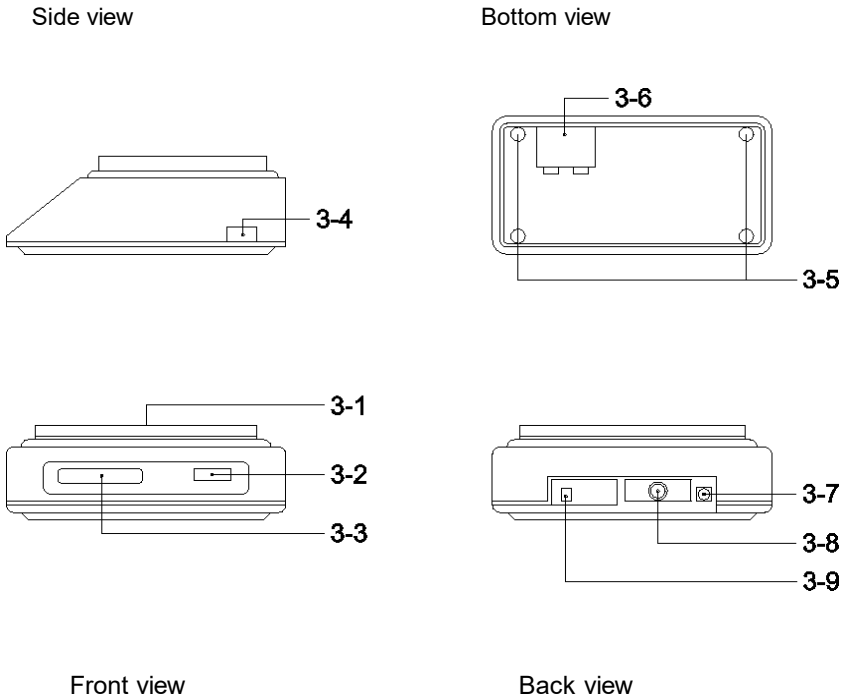

Fig. 1
Adjust the "Rubber Pad"(3-5, Fig. 1) until the scale install under the horizontal position completely.
- 2) Set the "gm" or "oz" unit by slide the "Unit Switch" (3-9, Fig. 1).
- 3) Turn the "Power Switch"(3-4, Fig. 1) to the On position.
The Display(3-3, Fig. 1) will show "8.8.8.8.8" for a few seconds, then "0" will appear again.
After weighting the first item, press "Tare Button" (3-2, Fig. 1), scale will reset to zero values automatically.
- 1) Open "Battery Cover"(3-6, Fig. 1) located at the bottom of the scale.
- 2) Plug the jack from the Adapter into the "DC 9V receptacle"(3-7, Fig. 1).
The instrument features an RS232 output via 3.5 mm Terminal (3-8, Fig. 1).